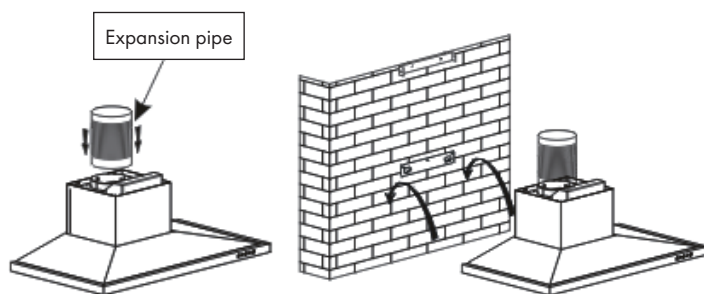

Figure 2
4. Install the expansion pipe and fix it with cable tie. Then put the cooker hood on the hook (see figure 2).